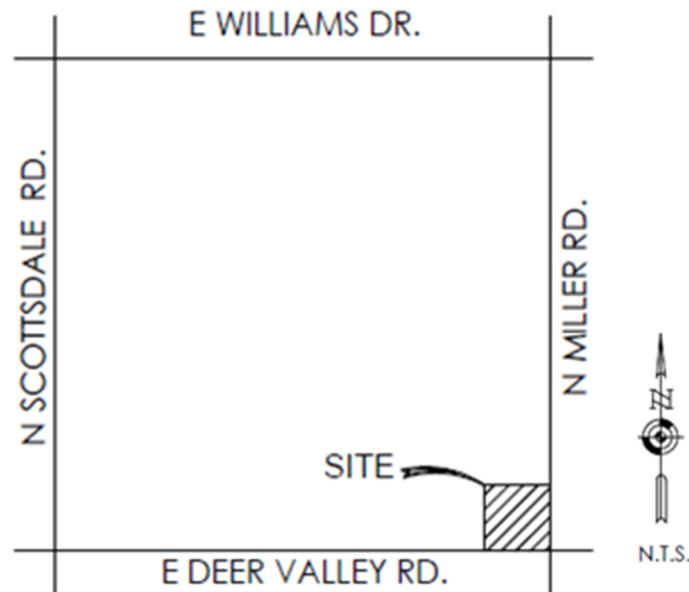

Figure 1 Vicinity Map
The proposed Deer Valley Townhomes development (Project) consists of attached townhomes split between three (3) buildings, 9 units on a one acre parcel. The proposed total disturbed area is 0.68 acres which include approx. 12,332 SF of building area. The lowest finished floor elevation of the site is 1779. The Site is defined by the parcel boundary for APN# 212-02-010E and is located at the northwest corner of Miller Road and Deer Valley Road in Scottsdale (see figure 1 below). The project zoning is R-3. The Site is currently undeveloped and the proposed development will be constructed all at once and will not be phased.